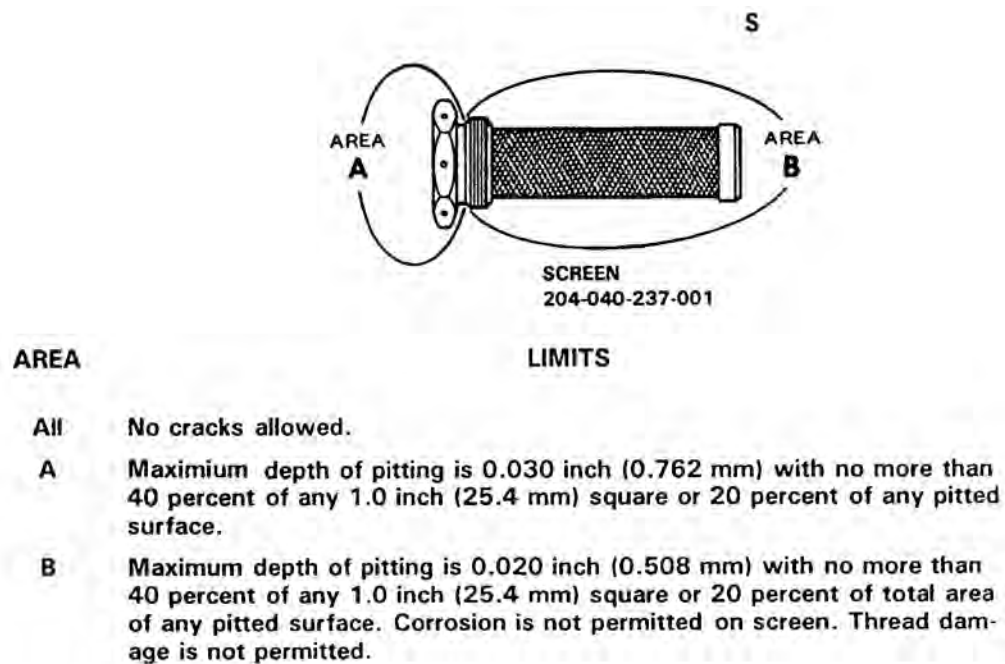

Figure 63-35. Damage Limits – Oil Pump Inlet Screen
63.5.18.1.4 Inspect screen for metal particles or other contamination and for damage. (Figure 63-35).
63.5.18.3.2 Inspect screen for damage in accordance with Figure 63-35.
63.5.18.4.1. Install screen (1, Figure 63-35) with a new packing (2), into sump case (3). Torque screen assembly 300 to 400 inch-lbs. (33.90 to 45.19 Nm) and secure to adjacent chip detector plug with lockwire (C-405).